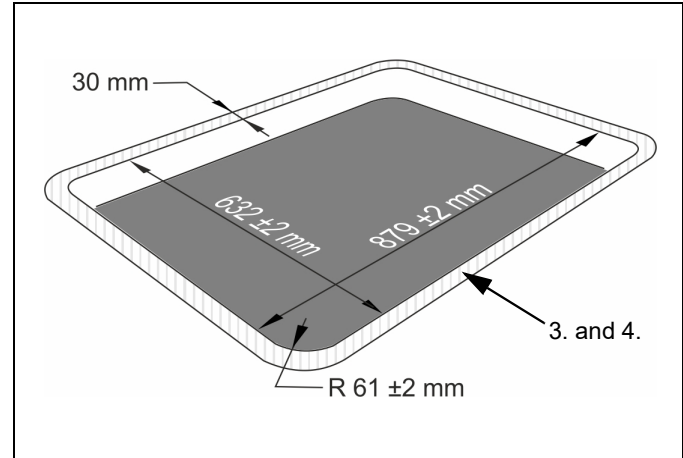

Fig. 1 Roof cutout dimensions
1. Make the roof cutout as shown in Fig. 1.
2. Lightly grind the entire circumference of the bonding surface (hatched in Fig. 1) with 600 grit sandpaper or equivalent.